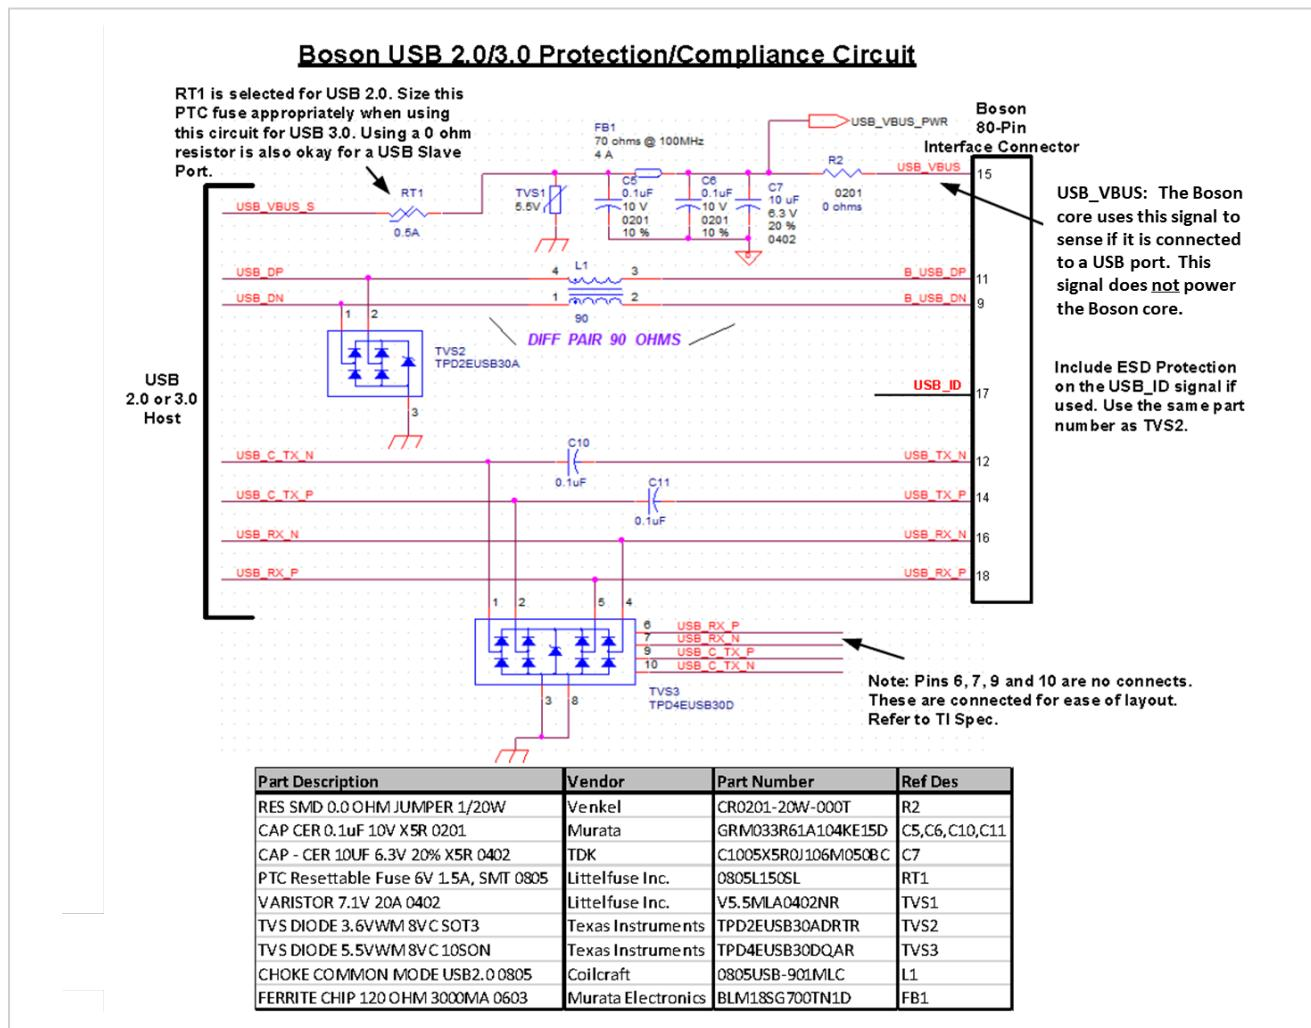

FIGURE 7: RECOMMENDED USB PROTECTION CIRCUITRY TO BE IMPLEMENTED ON INTERFACING ELECTRONICS
- Teledyne FLIR highly recommends implementing the protection circuit for the USB channel shown in Figure 7 if the USB channel is utilized.